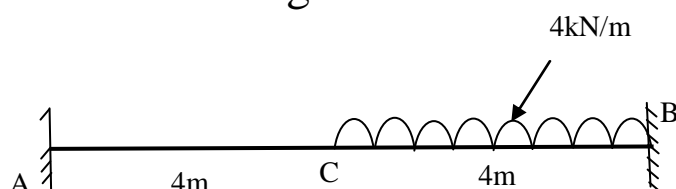

Figure 2
- 3 Find the fixed end moments and draw the shear force and bending moment diagrams for the beam shown in figure 2.